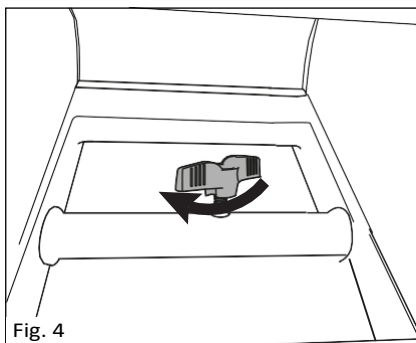

Fig. 4
- Place the second wheel (12) on the protruding end of the axle (16) and secure in place with the wheel washer and nut. Tighten the nut.
Note: By tightening the wing bolt on the axle frame (fig. 4) the axle (16) will be held in position and allow the wheel nuts to be tightened fully.